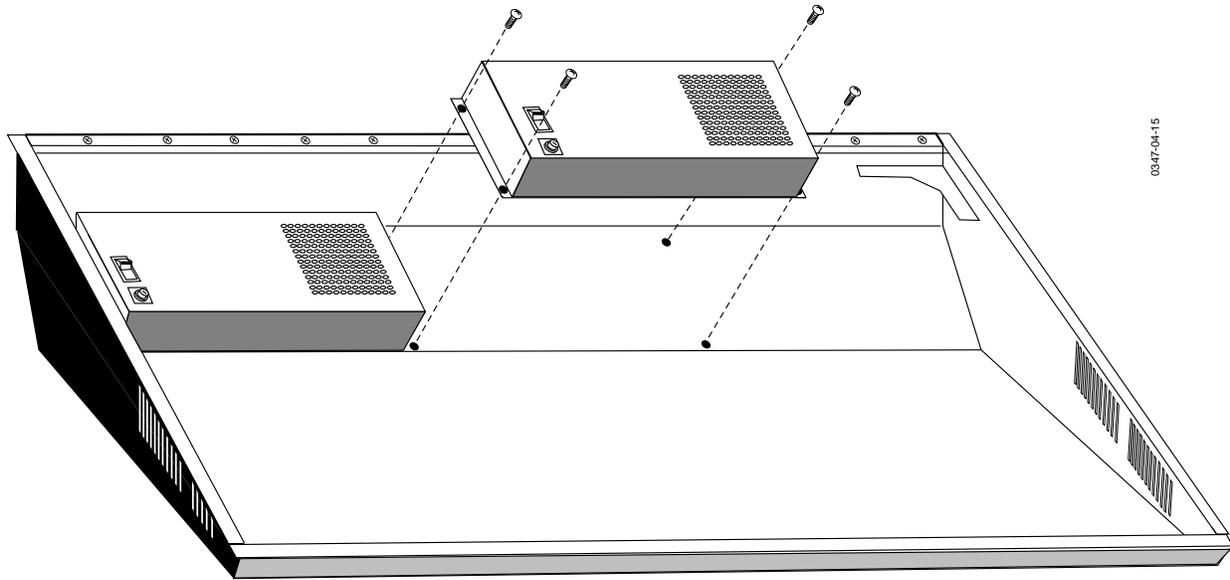

Figure 4-13. Model 3000-3 Control Panel Power Supply Removal
4. Remove the screws securing the power supply to the Control Panel tub. See Figure 4-13.